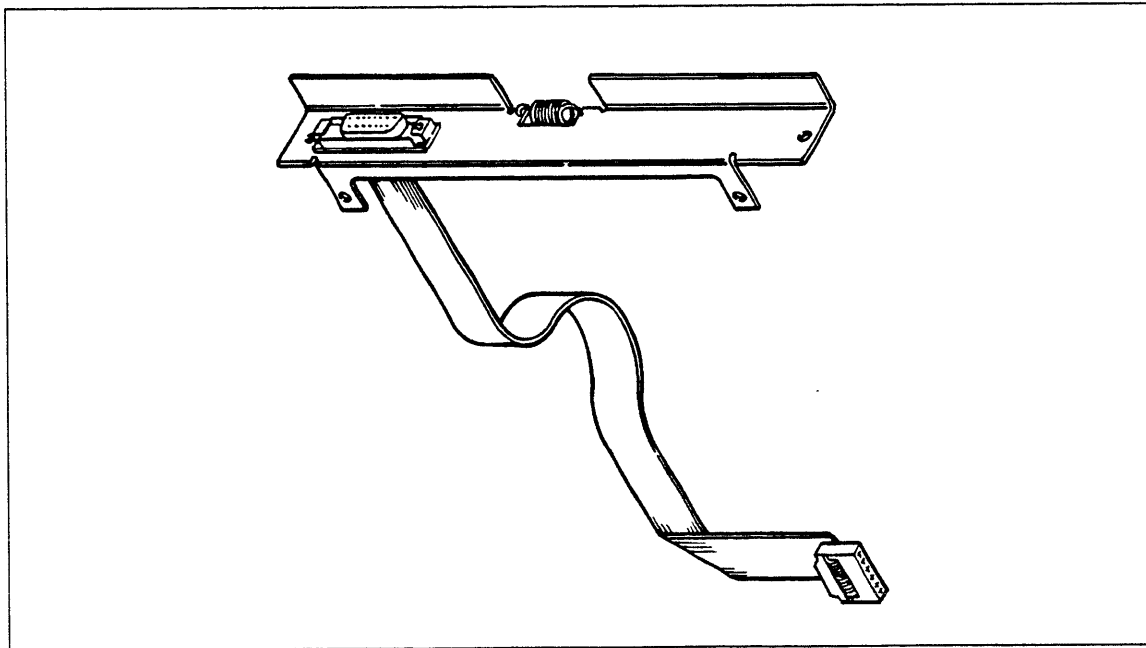
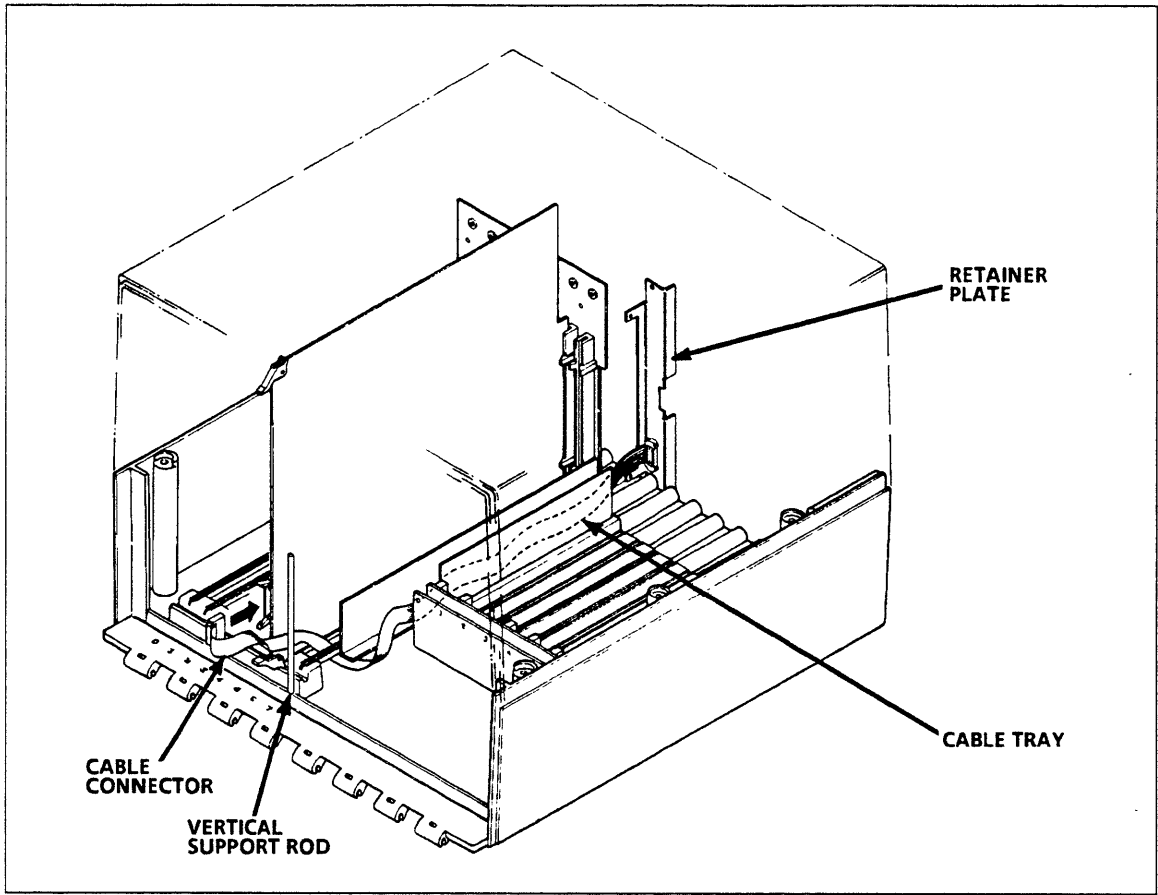

Figure 9-24. ESCI Internal Cable
Figure 9-25. Replacing ESCI Cable
3. Disconnect internal ESCI cable (figure 9-24) by rotating upper and lower cams on front of ESCI board (figure 9-25).